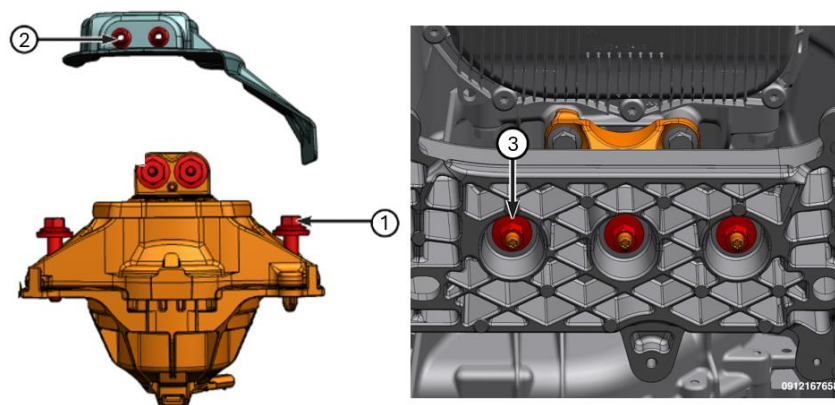

Figure 6.
- Tighten to the proper torque specification. (Table 1 and Figure 6)